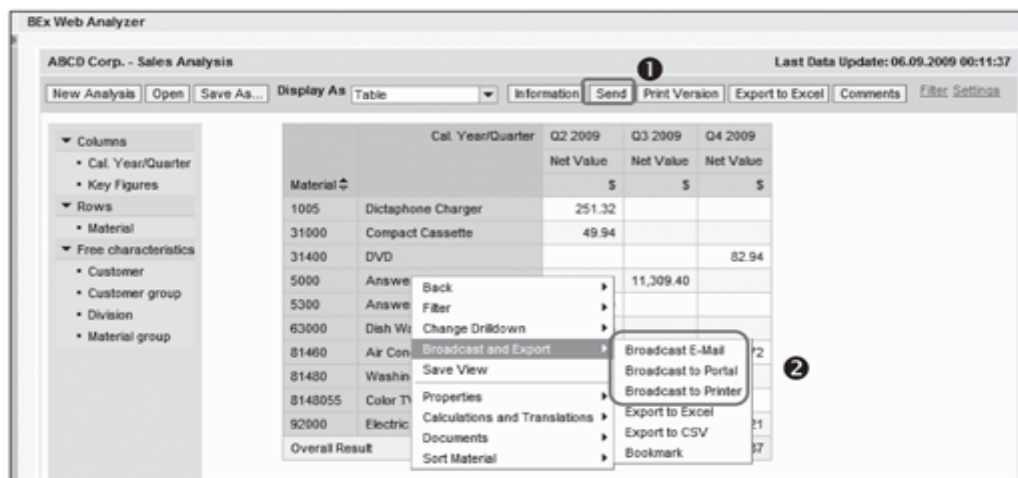

Figure 10.61 Calling BEx Broadcasting Wizard
1. The analysis done on BEx web analyzer can be broadcasted using the Send button (❶ of Figure 10.61). Click on the button, and it opens a pop-up window from the Broadcasting Wizard.
The wizard can also be called from the Broadcast and Export context menu function, as shown in ❷ of Figure 10.61.